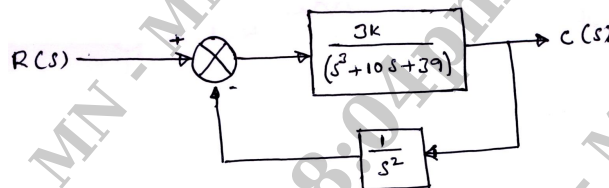

Fig.Q3(b)
- b. Determine order and type for open and closed loop control system as shown in Fig.Q3(b). (10 Marks)